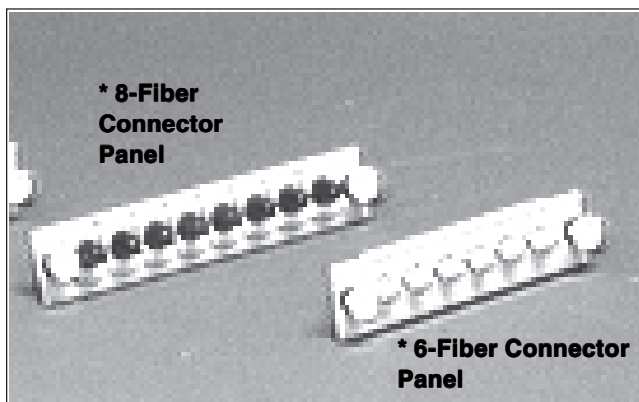

Figure 2
- 2.2 FDC Connector Panels are designed to secure various adapters (Figure 2) in a snap-in/snap-out panel.